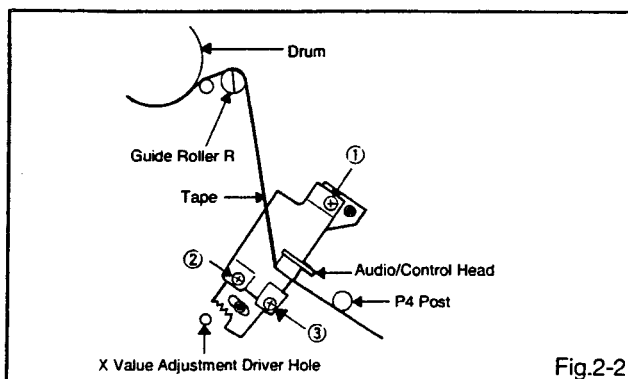
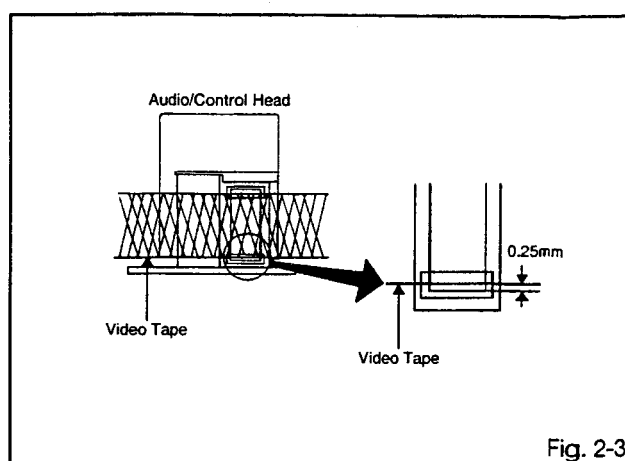

Fig.2-2
Fig. 2-3
2. Confirm that there is no crease on the tape between the P4 post and guide roller (R) and the tape is running smoothly. (It is absolutely impossible to get satisfactory sound if the tape is distorted between the A/C head and P4 post.)
3. If the tape still does not run smoothly, turn the screw ① and adjust the tilt of the A/C head. (Refer to Fig. 2-2)
2. Turn the screw ② slowly to change the azimuth of the A/C head. Adjust the height so that the audio output becomes maximum. (**Refer to Fig. 2-2**)
3. Adjust the screw ③, (**Refer to Fig. 2-2**) until the height of the A/C head reaches the position against the tape as shown in **Fig. 2-3**.
4. When the control head height is not fit. (When you must turn the screw more than 45 degrees), Turn all of the screws ①, ② and ③ to the same degrees.